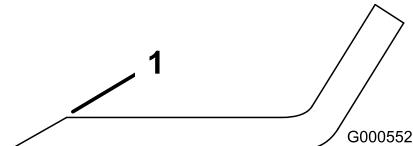
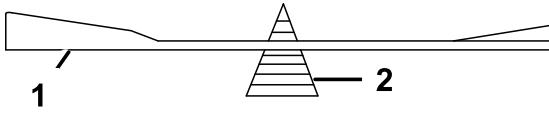

Figure 54
Figure 55
1. Use a file to sharpen the cutting edge at both ends of the blade (Figure 54). Maintain the original angle. The blade retains its balance if the same amount of material is removed from both cutting edges.
- 2. Check the balance of the blade by putting it on a blade balancer (Figure 55). If the blade stays in a horizontal position, the blade is balanced and can be used. If the blade is not balanced, file some metal off the end of the sail area only (Figure 54). Repeat this procedure until the blade is balanced.